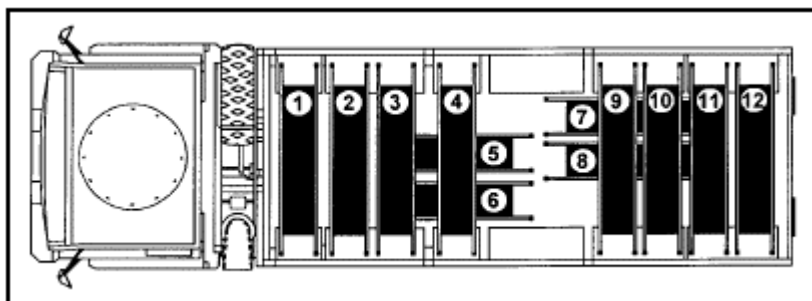

Figure 3-56
2. Direct nonmedical soldiers to load an M-1085. (See Figure 3-56.)